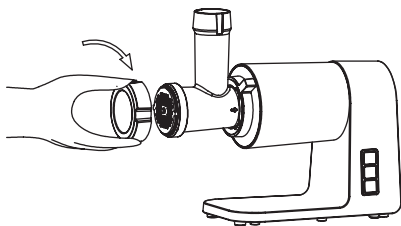

Figure 6.
5. Support or press the center of the cutting plate with one finger then screw the fixing ring tight with another hand (fig. 6).